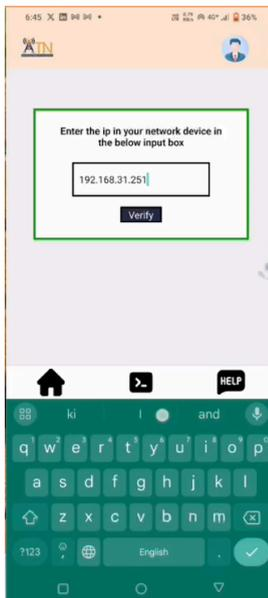

Fig 2.2: Filling the ip address
- In the field labelled "NodeMCU IP Address," enter the IP address of your NodeMCU as shown in figure 2.2.